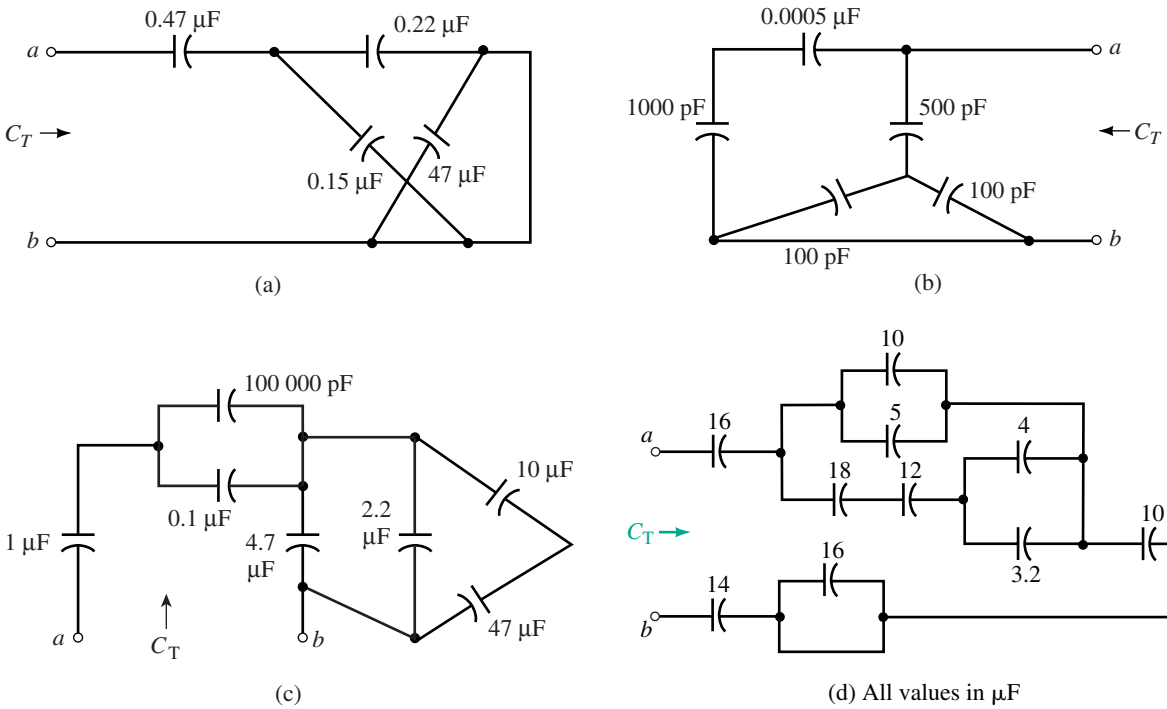

FIGURE 10-33
28. Determine total capacitance looking in at the terminals for each circuit of Figure 10-33.